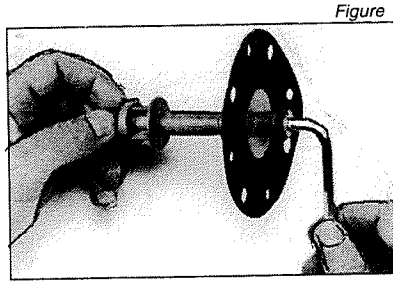

Figure 1
2. Grasp the bottom disc retainer and use a Allen wrench to take the assembly apart. Turn the Allen wrench coupter clockwise until the assembly is apart. (figure 1)